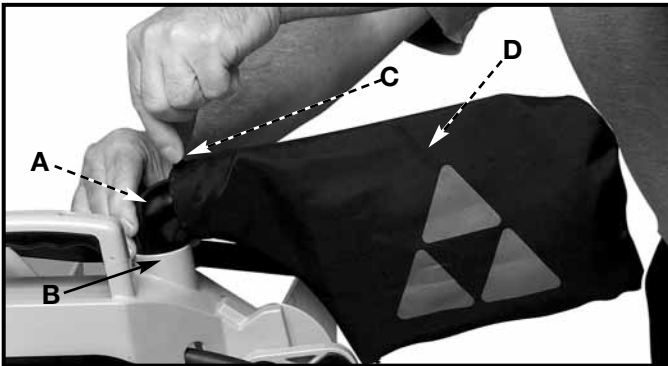

Fig. 3
1. Attach dust spout (A) Fig. 3 into port (B).
2. Depress spring clips (C) Fig. 3 of dust bag (D) and clip dust bag (D) over rib of dust spout (A).